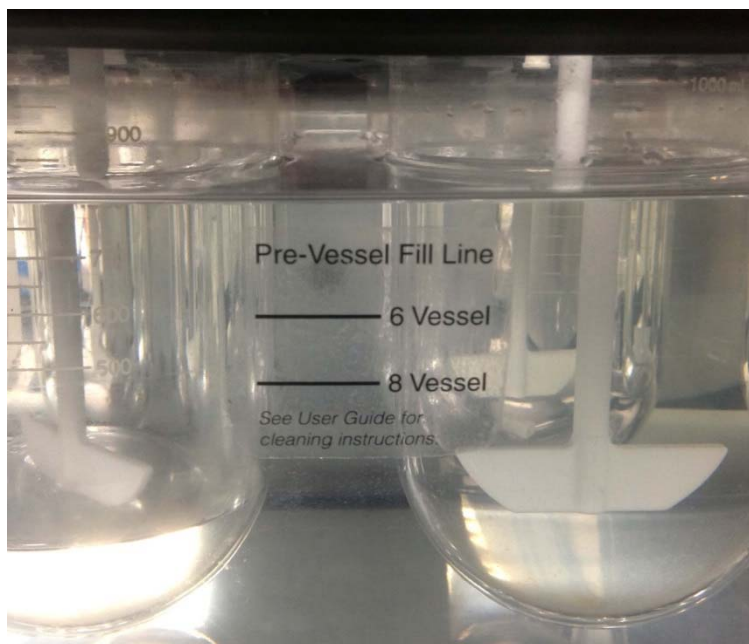

Fig. C-8 Fill waterbath to appropriate line on sticker
1. Fill the waterbath to the line on the sticker located at the center front. See Fig. C-8.